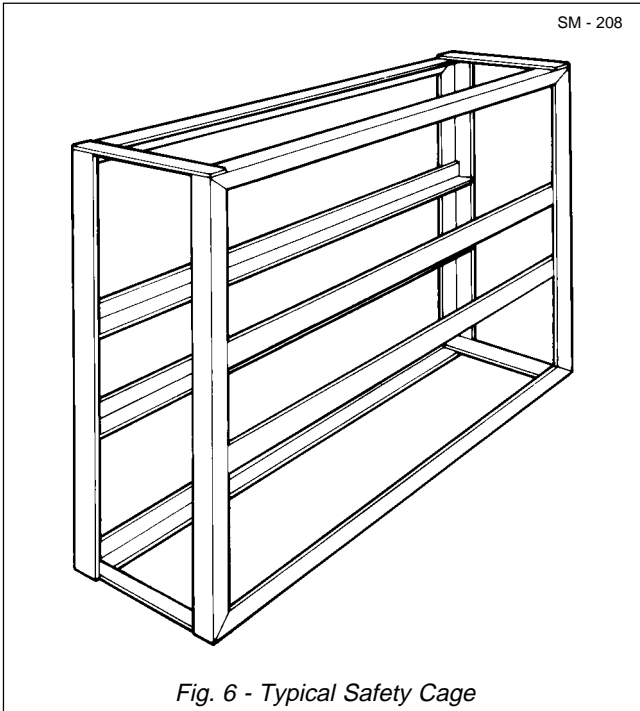

Fig. 6 - Typical Safety Cage
2. If the tyre is off the machine, place it in a safety cage after initially inflating to 1 bar (15 lbf/in2) to seat components. See Fig. 6.